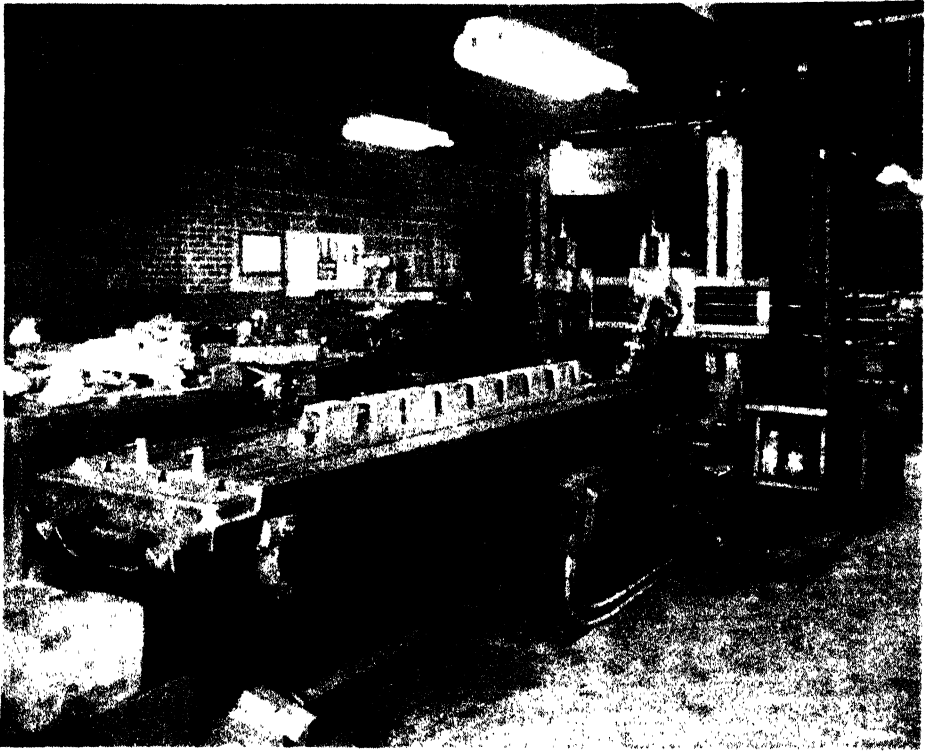

FIG. 29. A METAL PLANER.
6. In driving a metal planer such as shown in Fig. 29, the difference in tension between the two sides of the belt is 40 pounds. The belt is traveling at the rate of 2500 feet per minute. What horsepower is being transmitted?